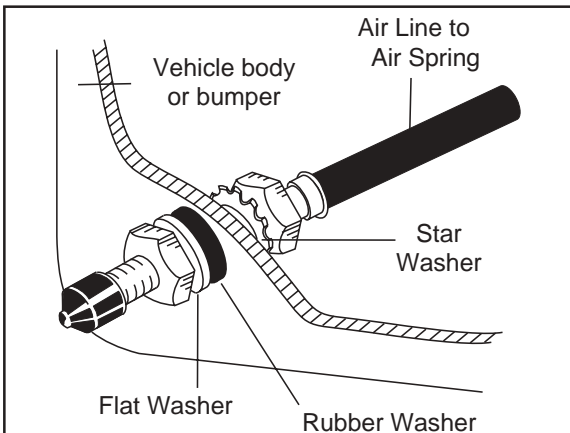

Figure 6
2. Drill a 5/16" hole to install the inflation valves (Figure 6).
3. Cut the air line assembly (AA) in two equal lengths.
4. Place a 5/16" nut (GG) and a star washer (FF) on the air valve. Leave enough of the inflation valve in front of the nut to extend through the hole and have room for the rubber washer (EE), flat washer (DD), and 5/16" nut (GG) and cap (CC). There should be enough valve exposed after installation - approximately 1/2" - to easily apply a pressure gauge or an air chuck.
5. Push the inflation valve through the hole and use the rubber washer (EE), flat washer (DD), and another 5/16" nut (GG) to secure it in place. Tighten the nuts to secure the assembly in place (Figure 6).